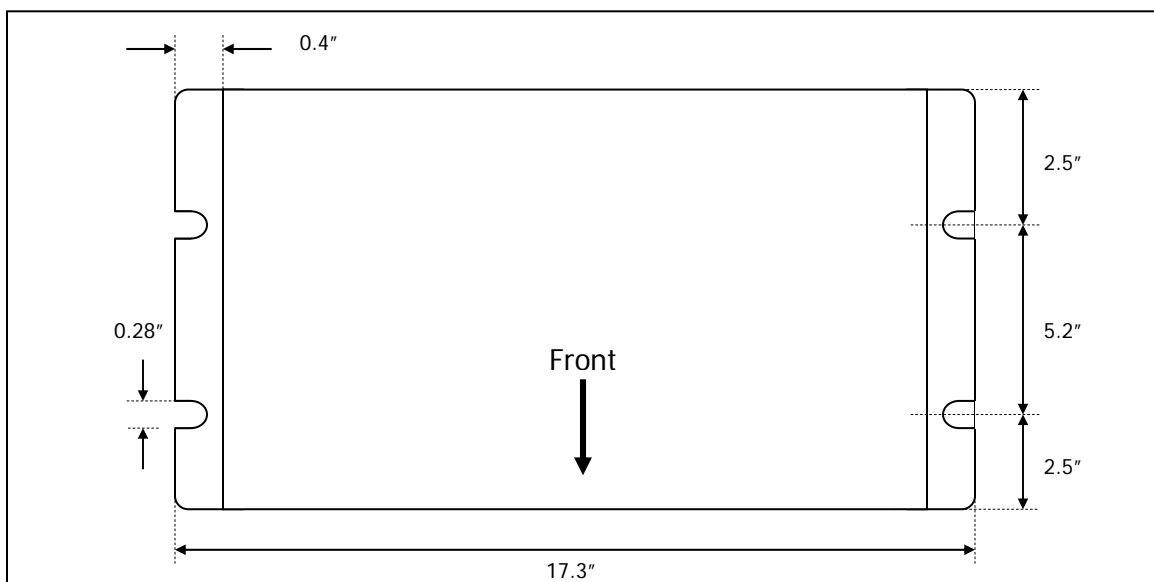

FIGURE 5: BBS Module footprint
- a) Locate the keyholes at the right and left side of the chassis flanges. See BBS module footprint on Figure 5 below.